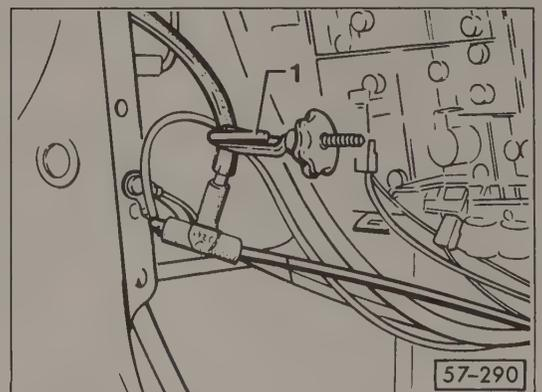

Fig. 5-12. Hose being clamped (1) in right rear of car to block air flow to gas tank flap.
- Clamp the hose shown in Fig. 5-12. If the pump runs longer than 5 seconds when activated, then the rear lid activator or its hose is faulty. If the pump turns off within 5 seconds, the gas tank flap or its hose is faulty. Remove the clamp.